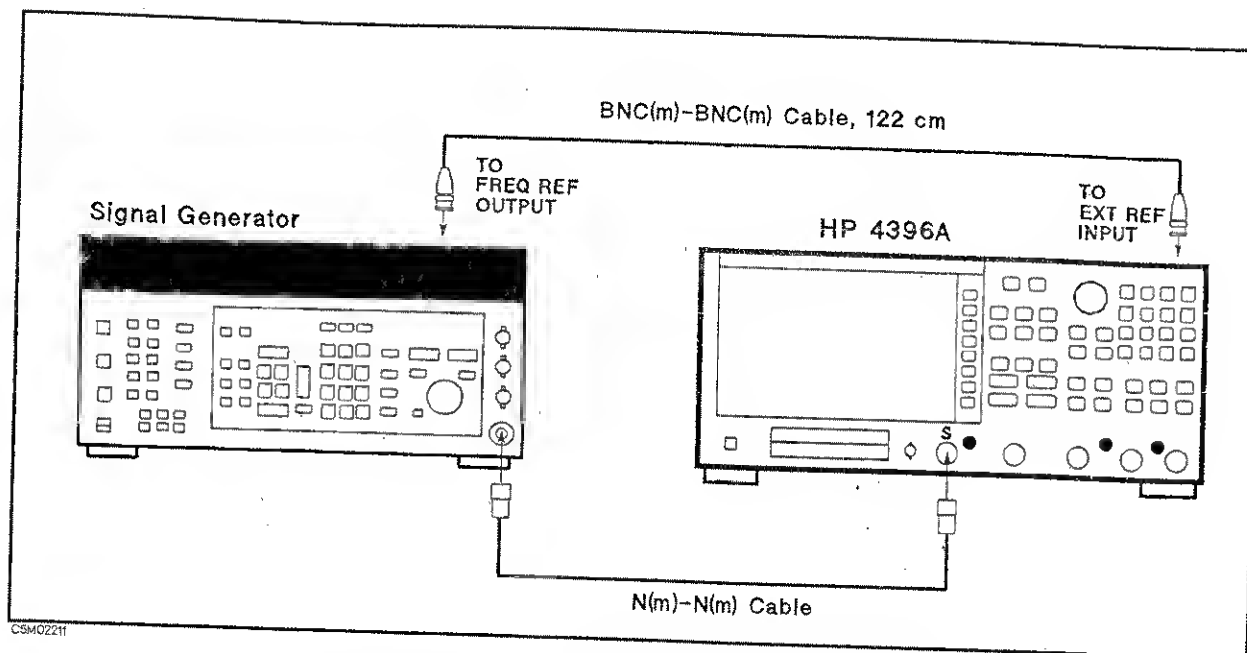

Figure 2-22. RBW Accuracy and Selectivity Test Setup
1. Connect the test equipment as shown in Figure 2-22.
Connect the signal generator's 10 MHz frequency reference output to the HP 4396A EXT REF Input on the rear panel as shown in Figure 2-22. With this configuration, both the signal generator and the HP 4396A are phase locked to the same reference frequency to obtain a stable measurement.